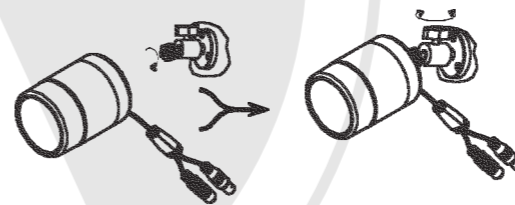

Figure 2
STEP 2: Secure the mounting bracket to the camera mounting post, adjust the camera to approximate location, and then tighten the camera wing nut (as shown in Figure 2).